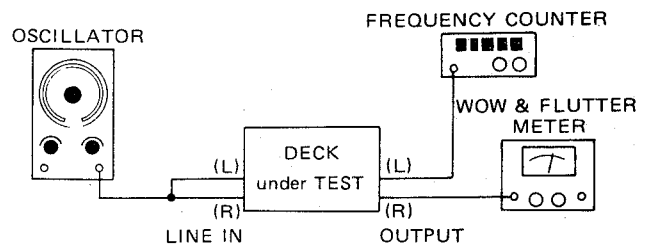

Fig. 2-21
- Connect the test equipment to the deck as shown in Fig. 2-21.